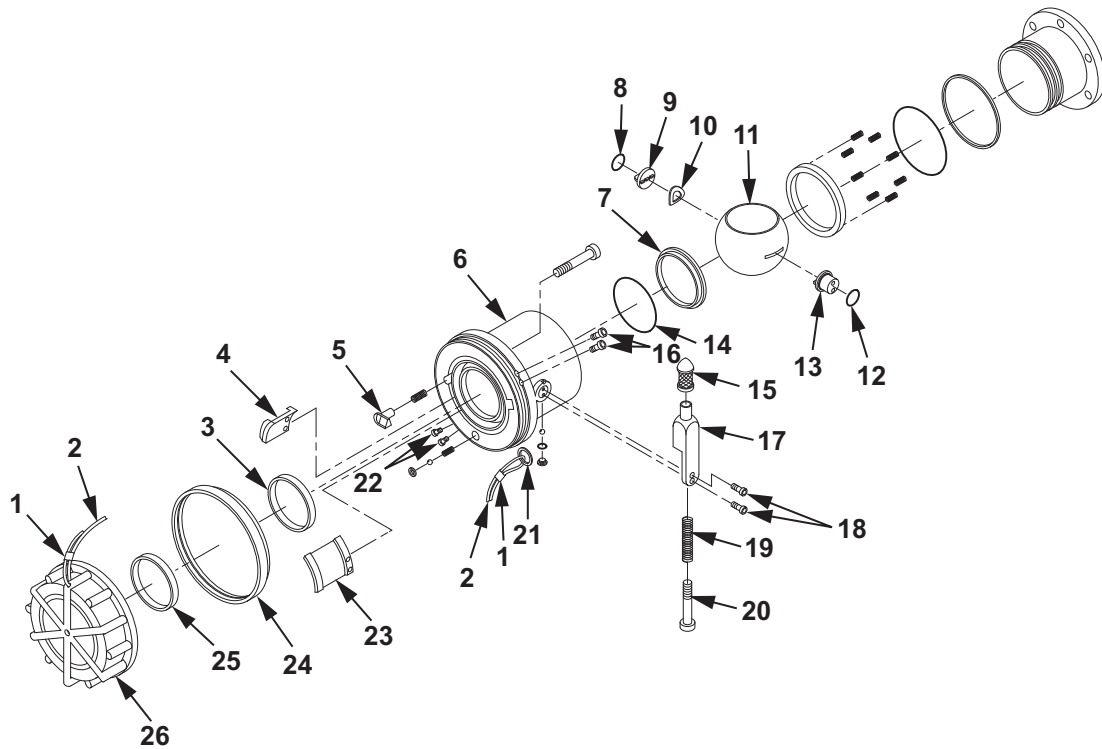

Figure 3. Valved Dry-Break Coupling Assembly.
If it was necessary to replace bumper (Figure 3, Item 24) or lugs (Figure 3, Item 23, 4), perform the following installation steps.
5. Position lugs (Figure 3, Item 23, 4) in coupling (Figure 3, Item 6).
6. Install screws (Figure 3, Item 22) into coupling (Figure 3, Item 6).
7. Using torque wrench and screwdriver bit, torque screws (Figure 3, Item 16) to 6 in. lb (0.70 N•m).
8. Position bumper (Figure 3, Item 24) with thin lip seal end facing away from coupling (Figure 3, Item 6).
9. Install bumper (Figure 3, Item 24) on coupling (Figure 3, Item 6).
If it was necessary to replace dust cap (Figure 3, Item 24), perform the following installation steps.
10. Install new seal (Figure 3, Item 25) on dust cap (Figure 3, Item 26).
11. Loop one end of 18 in. cable (Figure 3, Item 2) through sleeve (Figure 3, Item 1), dust cap (Figure 3, Item 26) and back through sleeve (Figure 3, Item 1).
12. Using pliers, crimp sleeve (Figure 3, Item 1).
13. Loop other end of 18 in. cable (Figure 3, Item 2) through sleeve (Figure 3, Item 1), split ring (Figure 3, Item 21) and back through sleeve (Figure 3, Item 1).
14. Using pliers, crimp sleeve (Figure 3, Item 1).
15. Install new seal (Figure 3, Item 3) into coupling (Figure 3, Item 6) interface.
16. Lightly lubricate new O-ring (Figure 3, Item 12) with petrolatum and install O-ring (Figure 3, Item 12) on control arm shaft (Figure 3, Item 13).
If it was necessary to disassemble control arm (Figure 3, Item 17), perform the following assembly steps.
17. Place spring (Figure 3, Item 19) on screw (Figure 3, Item 20).
18. Install screw (Figure 3, Item 20) into control arm (Figure 3, Item 17).
19. Install knob (Figure 3, Item 15) on control arm (Figure 3, Item 17).
20. Tighten screw (Figure 3, Item 20) hand tight.
21. Install control arm shaft (Figure 3, Item 13) inside coupling (Figure 3, Item 6).
22. Position control arm (Figure 3, Item 17) with holes on control arm shaft (Figure 3, Item 13).
23. Install two screws (Figure 3, Item 18) through control arm (Figure 3, Item 17) and into control arm shaft (Figure 3, Item 13).
24. Using torque wrench and screwdriver bit, torque screws (Figure 3, Item 18) to 8 in. lb (0.90 N•m).
25. Lightly lubricate new O-ring (Figure 3, Item 14) with petrolatum and install O-ring (Figure 3, Item 14) in coupling (Figure 3, Item 6).
26. Install new seal (Figure 3, Item 7) into coupling (Figure 3, Item 6).
27. Lightly lubricate new O-ring (Figure 3, Item 8) with petrolatum and install O-ring (Figure 3, Item 8) in groove of stop pin (Figure 3, Item 9).
28. Install stop pin (Figure 3, Item 9) inside coupling (Figure 3, Item 6).
29. Install spring washer (Figure 3, Item 10) in groove of stop pin (Figure 3, Item 9).
30. Align slots in ball valve (Figure 3, Item 11) with tangs on control arm shaft (Figure 3, Item 13) and stop pin (Figure 3, Item 9).
31. Install ball valve (Figure 3, Item 11) in coupling (Figure 3, Item 6).